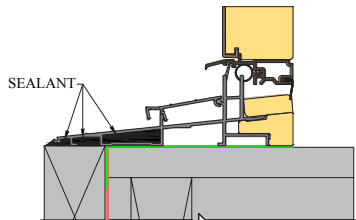

FIG. 23: IN-SWING SILL
- C) Apply silicone to seal each end of the sill cavity that protrudes from the rough opening. (Fig. 23)